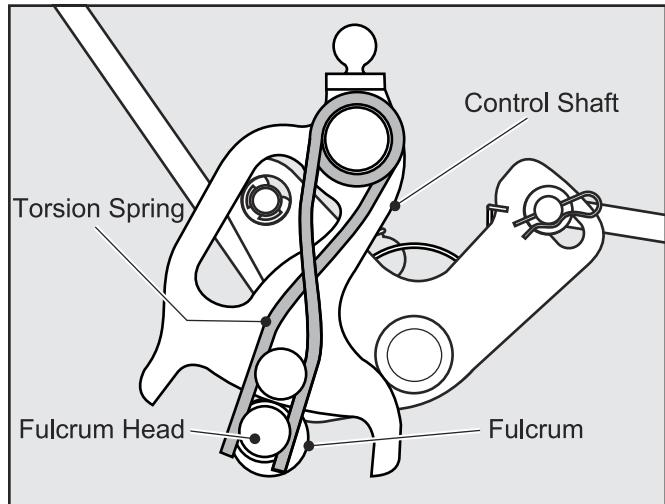

Fig. 14, Fulcrum –Control Shaft Assembly
3. Place the head of the Fulcrum between the legs of the Torsion Spring. (Fig. 14)